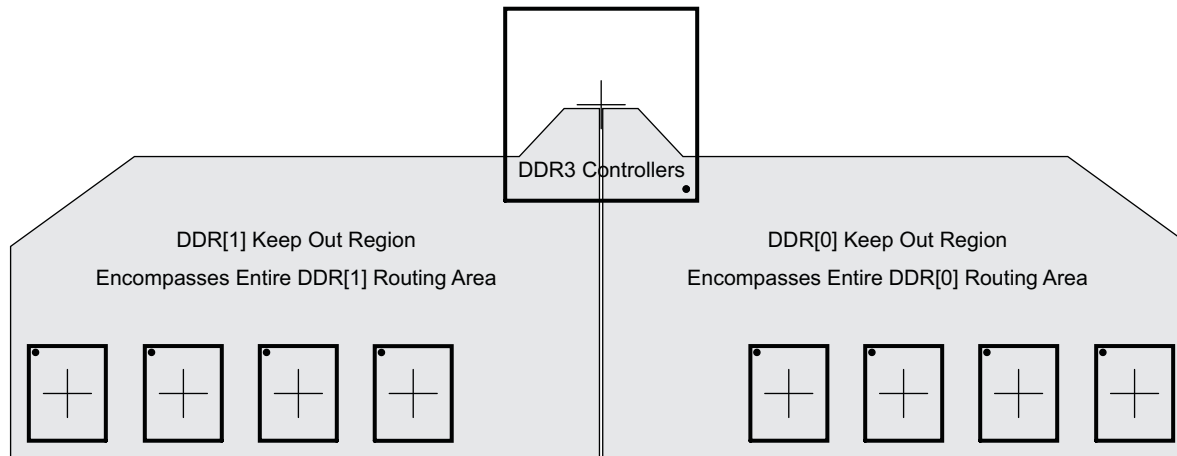

Figure 9-57. DDR3 Keepout Region
(2) Measurements from center of processor to center of DDR3 device.
(3) Minimizing X1 and Y improves timing margins.
(4) w is defined as the signal trace width.
(5) Non-DDR3 signals allowed within DDR3 keepout region provided they are separated from DDR3 routing layers by a ground plane.
(6) If a device has more than one DDR controller, the signals from the other controller(s) are considered non-DDR3 and should be separated by this specification.
The region of the PCB used for DDR3 circuitry must be isolated from other signals. The DDR3 keepout region is defined for this purpose and is shown in Figure 9-57. The size of this region varies with the placement and DDR routing. Additional clearances required for the keepout region are shown in Table 9-70. Non-DDR3 signals should not be routed on the DDR signal layers within the DDR3 keepout region. Non-DDR3 signals may be routed in the region, provided they are routed on layers separated from the DDR signal layers by a ground layer. No breaks should be allowed in the reference ground layers in this region. In addition, the 1.5-V DDR3 power plane should cover the entire keepout region. Also note that if there is more than one DDR controller, the signals from each controller must be separated from each other by the specification in Table 9-70, item 5. Each DDR controller should have its own DDR keepout region.
Figure 9-57 is an example of a processor with two DDR controllers. Processors with a single DDR controller will have only one DDR keepout region. Each DDR controller should have its own keepout region.